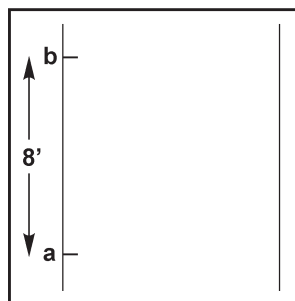

Figure 3
3. Measure 8 feet above mark "a" on the side of the lane and mark "b" (see Figure 3).